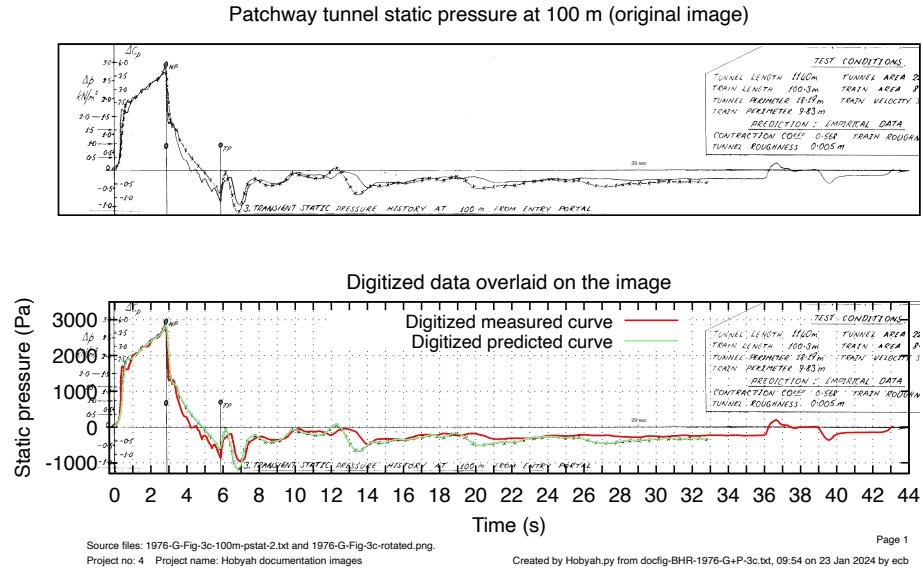

Figure 1.1: Dumb plotting to validate digitized data
I mostly use the dumb plotter function to validate data that I’ve digitized from technical papers that have full-scale test results. Figure 1.1 shows a scan of one of the classic test cases in the tunnel ventilation field: the change in static pressure 100 m from the entry portal of the Patchway tunnel as a train enters (Figure 3c in Gawthorpe & Pope 1976).
The upper image in Figure 1.1 shows a scan of the image from the paper. The lower image shows the same image with a graph of the digitized data overlaid on top of it. Gnuplot has such fine control over its graph placement that the values on the X and Y axes can be lined up and the correctness of the digitization checked.
While your attention is on Figure 1.1, I’d like to draw your attention to the two lines of small text below the lower graph. These are quality assurance (QA) data for the Figure. The QA data gives the names of the files that hold curve data, names of images, the name of the file that created the Figure, the date & time it was created, and the username of the engineer who created it. There is also room for a project number and a project description, which may be useful in project work. See Sections 3.3.11 & 3.3.12 for details of how to control/hide these lines.
I also used the dumb plotter function to generate Figures for this manual: Figure 2.1 is one such. All the data plotted on that Figure is contained in its Hobyah input file. Another example can be found in the input file used to generate Figure 1.1 (it is called `docfig-BHR-1976-G+P-3c.txt`).